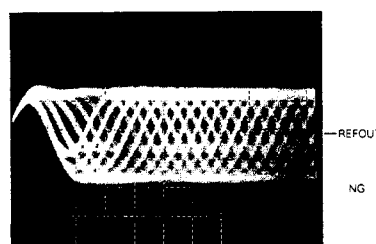

Fig. 17
2. Adjust the tangential adjustment screw so that the RF wave-form will have a level maximized and an eye pattern clearly viewed. Turn the adjustment screw both clockwise and counterclockwise to points where the eye pattern deteriorates, and take the midway point as the adjustment point. As a general guide, look for an overall clear wave-form, and one of the diamond shapes in the eye pattern. The diamond shapes should appear in finelines at the point of optimum adjustment. Take care not to knock the pick-up with the screwdriver at this stage. (This kind of accident can result in loss of focus.) (See Fig. 17, 18)